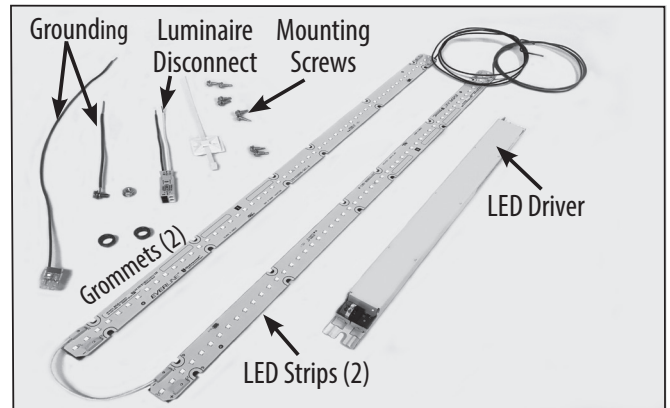

Figure 1: Magnetic Multi-Purpose Installation Kit Components.
- One (1) kit is needed for retrofitting a 4-foot Vapor Tight Light Fixture.
- Two (2) kits are needed for retrofitting an 8-foot Vapor Tight Light Fixture.
3. All old lighting components should now be removed from the gear tray. Figure 1 shows all components in the Magnetic Multi-Purpose LED Retrofit installation kit. The two LED Strips with the magnetic backing are pre-wired at the factory to ensure the incoming power source energizes both LED Strips as follows: